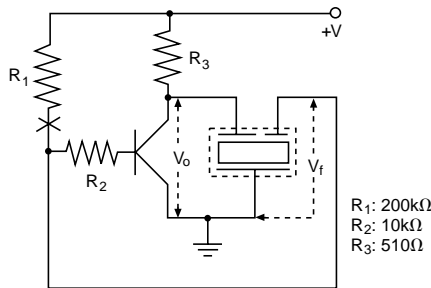

Fig. 73-1
Fig. 73-1 shows a modified Hartley oscillator with a grounded emitter in which the equivalent inductance and capacitance of the sound element replaces the function of the coil and capacitor of the Hartley circuits. Stable tone generation at high sound pressure levels, combined with a low cost is the basic feature of this circuit which uses one transistor and three resistors.
- The phase difference between V_o and V_i in Fig. 73-1 should not be less than 180° .